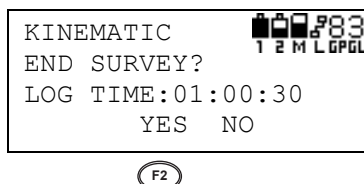

Figure 3-56. Confirm Observation Complete
14. Press **F2** (YES) to confirm (Figure 3-56).